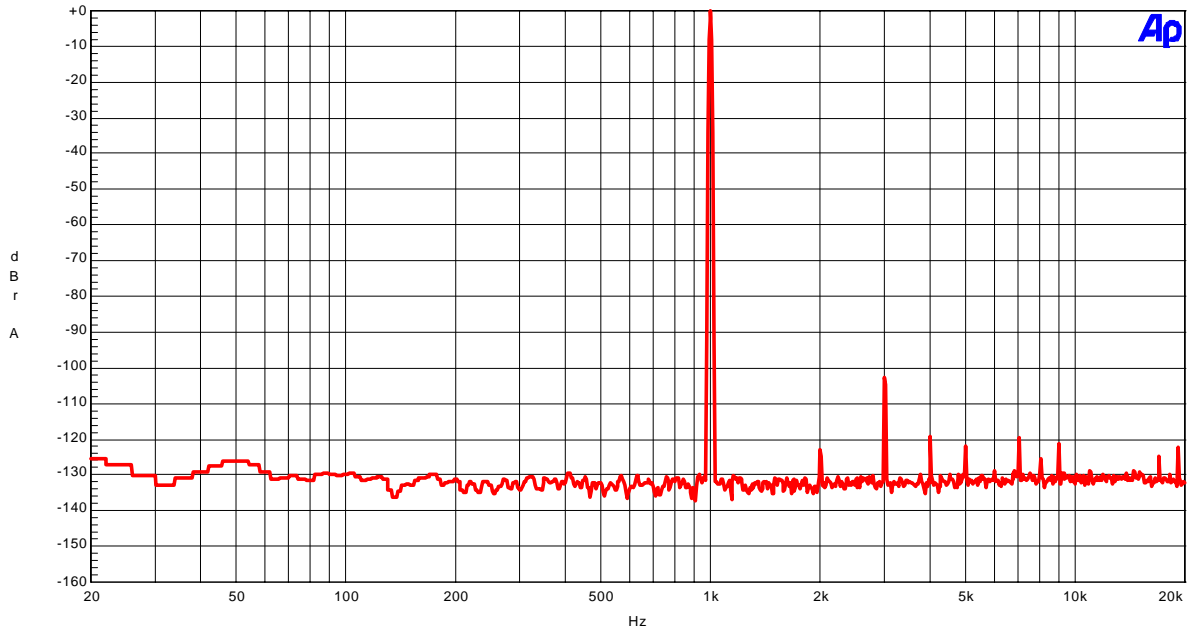

Figure 6 . FFT (1kHz, 0dBFS input)
- Figure 6 . FFT (1kHz, 0dBFS input)